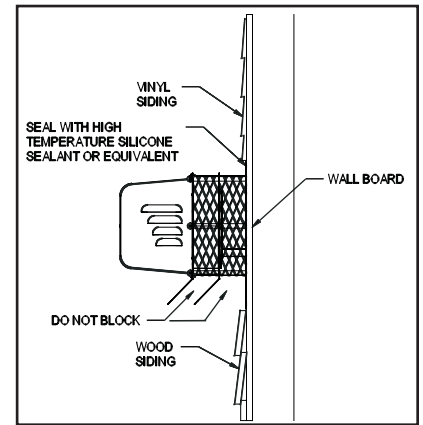

Figure 2
1. After determining the location of the venting system termination point (See Diagram A), cut a square hole through the wall at least 1" larger than the outer pipe diameter of the power venter. (See Note Below) Mount the power venter through the wall, keeping the outer pipe centered in the hole. (See Figures 2 and 3) Provide the motor enclosure end of the venter with a temporary support structure. Fasten the power venter to the outside wall with appropriate fasteners, sealing the edges of the power venter base plate to the wall with a high temperature silicone sealant. **DO NOT** enclose the spaced plates on the power venter body. This will result in reduced cooling of the power venter body. Wood or vinyl siding should be cut so that the unit mounts directly on the wall board to provide a stable support. If the siding is greater than 1/2" thick use a spacer plate or board behind the power venter mounting plate. (See Figure 2)